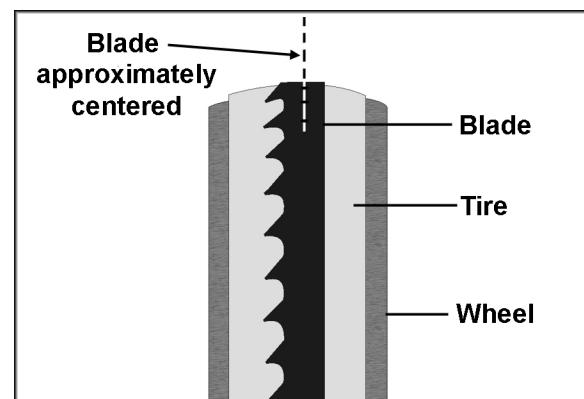

Figure 5-11
6. Rotate wheel by hand, observing position of blade through tracking window. The blade should ride approximately at center of tire (Figure 5-11).